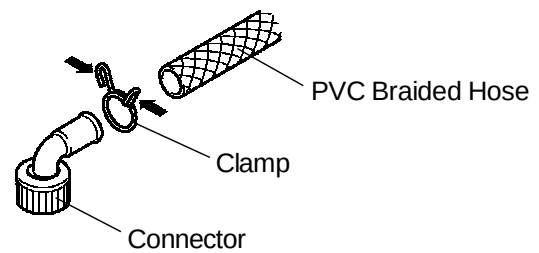

Fig. 5
- 2) Attach the PVC Braided Hose to the Connector with the Clamp. See Fig. 5.